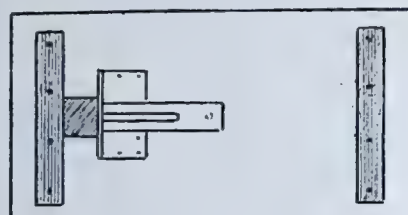
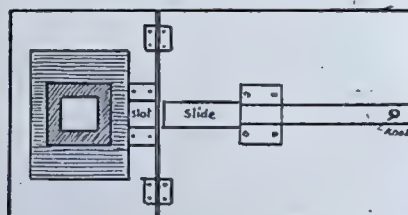

FIG 3
FIG 4.
safely at the finish. The bottom should be one inch thick; the top slightly less, say $\frac{3}{4}$ in.; the corner pillars may be $\frac{3}{4}$ in. square (actual finished sizes). Both the top and bottom should project and have a moulding worked round as a finish, while the pillars may be chamfered. These are all shown in Fig. 1. The top should be 2 ins. wide, the front edge mitred, but the actual jointing done with mortise and tenon (see dotted lines in Fig. 2) and fixed with two small pins as shown. The pillars should be grooved as in section Fig. 3, one groove being deeper than the other. In this latter will fit a slight bolt, which will pass through the top and bottom, fixing with nut under the latter as in Fig. 4. This method of construction will allow the case to be lifted about by the top. When required to be open, to get at the ornament, the four nuts underneath can be taken off, when the whole will come apart. The pillar should be let into the top and bottom solid as shown. Any kind of wood may be used; the easier way will be to use soft wood, finishing with paint and enamel.
effectually prevented. By pressing the tail of the clutch it can be readily disengaged from the notch in which it rests. The ratchet, as explained, is fitted loosely, but it can be steadied against lateral play by entering a pin through the side of block into a corresponding groove in the manner indicated (C). An additional plan of the underside of top is given to assist in making matters plain, the metal work being left in outline and the woodwork shaded (Fig. 3). The base should be of 1 in. thickness, shaped to the outline
plates, screwed on as indicated. By referring to the illustrations, the action of the quadrant plate, sketched at Fig. 4, E, should be readily understood. These bed tables are usually made to tilt, and not to
fold down, but we offer a suggestion which might be carried out if the latter arrangement were preferred. Fit a block about $1\frac{1}{4}$ ins. thickness to the underside of top firmly by dowelling or stub-tenoning in such position that a length of, say, 1 ft. 6 ins., would be available as a hinged fall down flap. When up flush the flap would be supported on the underside by a slide fitted to push home into a corresponding screwed-on slot. A screwed-on support is indicated in centre of flap, and the slide might be cut with a shoulder to bear and stop against this when the slide is withdrawn from the slot. This would keep the slide in position under flap when down, a knob being fitted for purposes of gripping in use. The plan (Fig. 4) should assist in making this little arrangement clear.